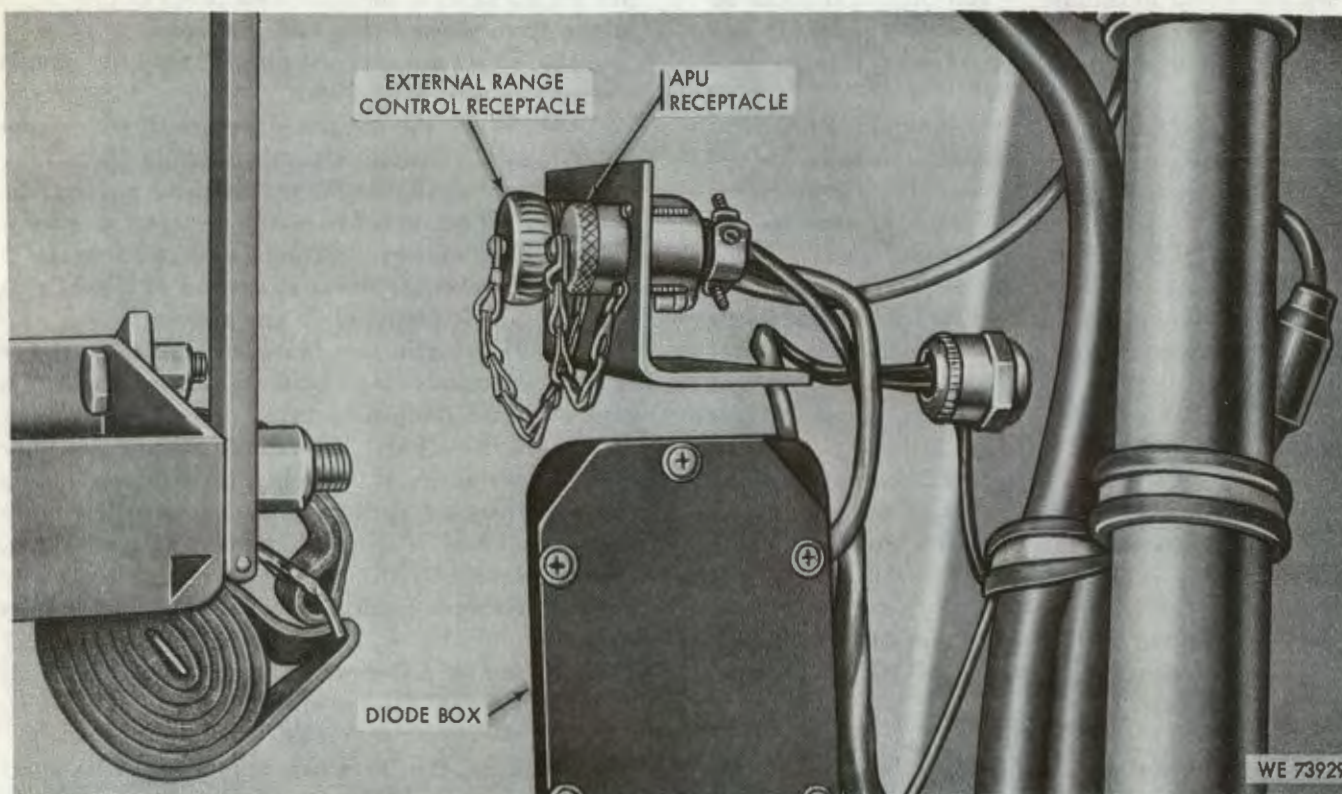
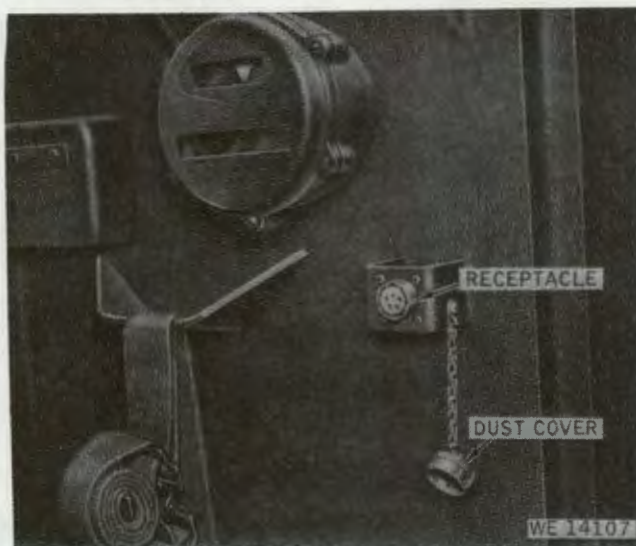

Figure 2-70. Personnel compartment receptacles—up to vehicle serial number C270.
Figure 2-71. External range control external receptacle—up to vehicle serial number C270.
(2) Connect the external range control assembly (fig 1-19) to either the personnel compartment receptacle (fig 2-70) or the outside external range control receptacle (fig 2-71 or 2-71.1).